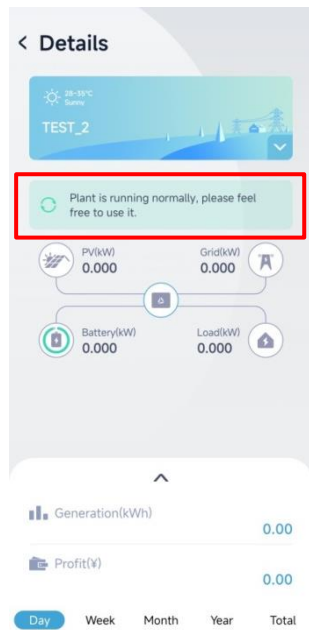

Figure4-10 Device list
Step 12 Back to main page, the device status turns to online from offline, as shown in Figure4-10.